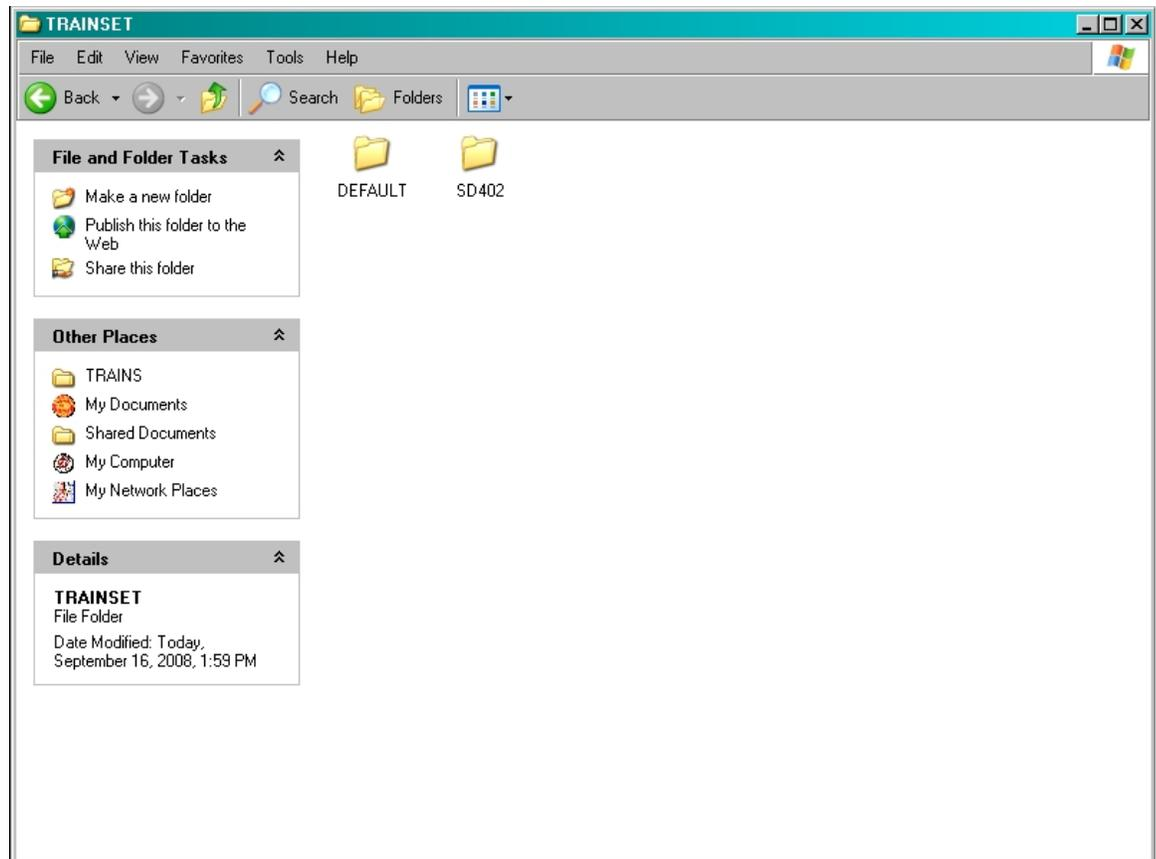

Figure 2
1. Copy and paste your **SD402** folder from your "**XTRAINSET**" folder to your new "**TRAINSET**" folder. It should now look like Figure 2.